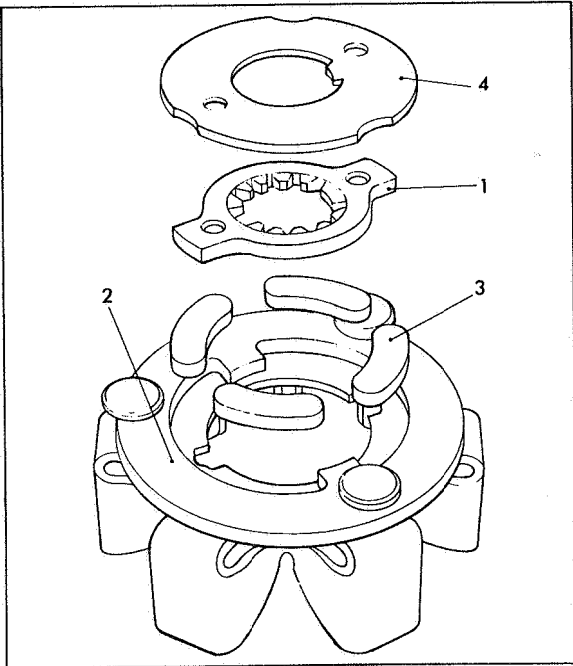

Fig 12 Assembling weights retainer
Assemble cush drive splined hub (1) Fig 12 small diameter end downwards, into cush drive retainer (2) and align holes with cut-outs in retainer. Assemble cush drive rubber inserts (3). Position cush drive back plate (4) so that the three notches slide over the three rivet heads, then rotate plate until the internal lip aligns with the lip on the cush drive splined hub.